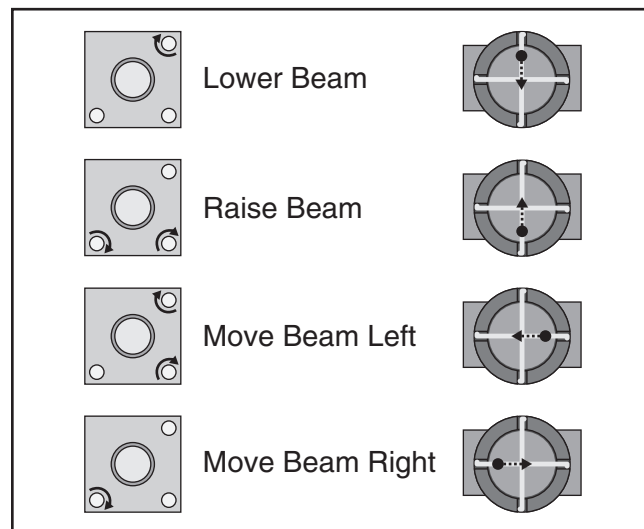

Figure 113. Mirror thumbscrew adjustment.
25. Adjust direction of beam path by tightening thumbscrews depending on desired direction of beam travel (see **Figure 113**).